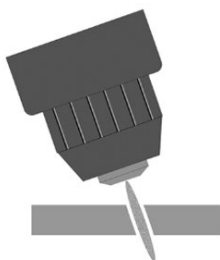

Fig. 9
2. Torch angled to the material. Unequal bevel, one side may be excessively beveled (Fig. 9).